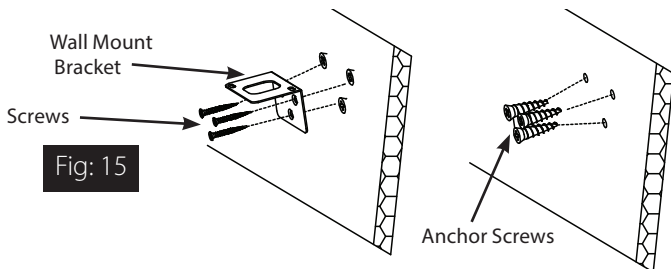

Fig: 15
2. Secure **Wall Mount Brackets** to the wall as shown in Fig. 15 using appropriate hardware.